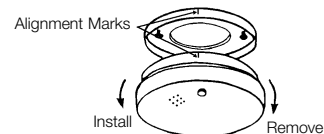

Fig. 4
6. Alignment marks are provided on the edge of the trim plate and the alarm. After installing the mounting plate, place the alarm on the mounting plate with the alignment marks lined up. Twist the alarm in the direction indicated by the "ON" arrow on the alarm cover (see Figure 4) until it locks in place.